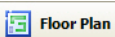

Figure 10-1: Enabling the Device Locator Service
- 3) Check **Enable Device Locator Service**. See Figure 10-1.